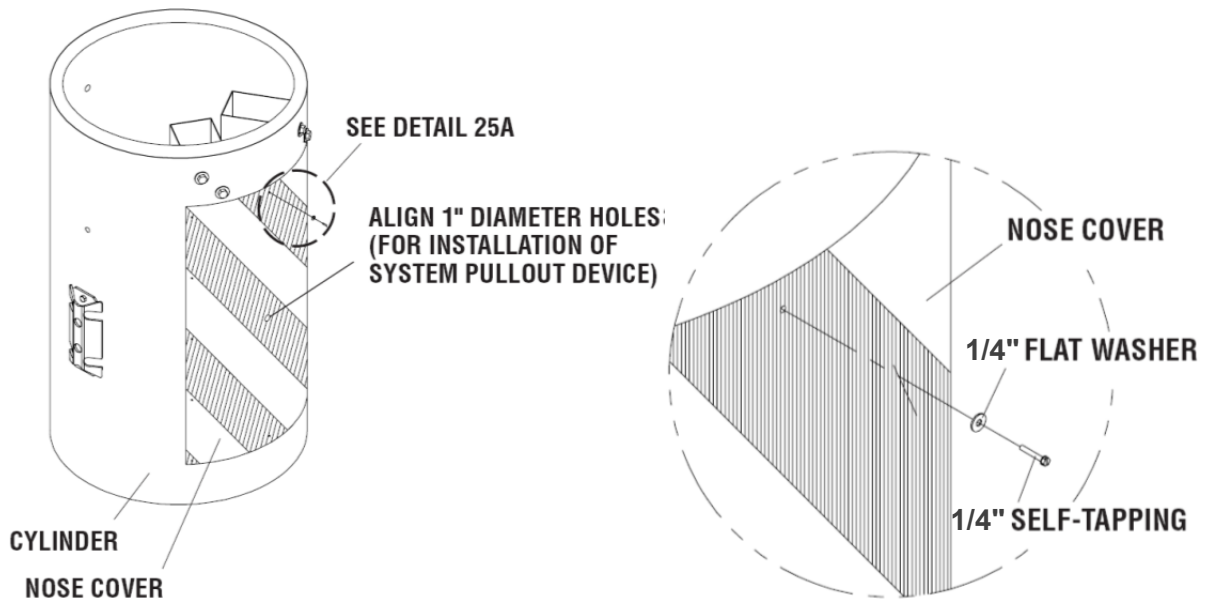

Figure 25
3. Screw 1/4" self-tapping screw into Cylinder punching through reflective tape and the existing holes in nose cover until head of fastener is flush for all 12 places (see Figure 25 on p. 24).